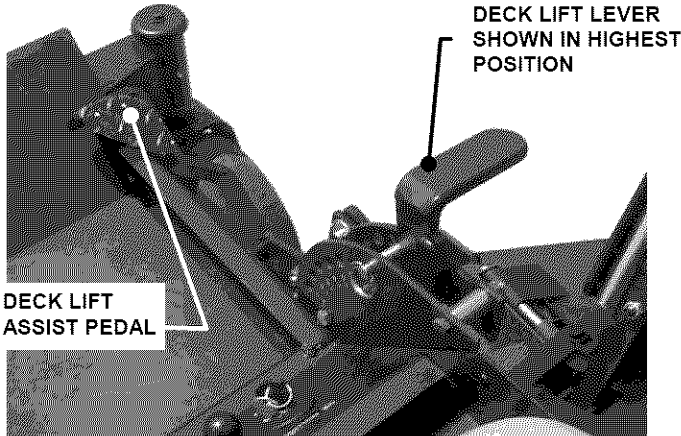

FIGURE 3.10
1. Adjust cutting height, as desired, to any position, using deck lift lever. **IMPORTANT:** There is a foot assist pedal located to the right front side of the footrest. Always use this assist pedal to raise or lower the deck to the desired cutting height. See Figure 3.10.